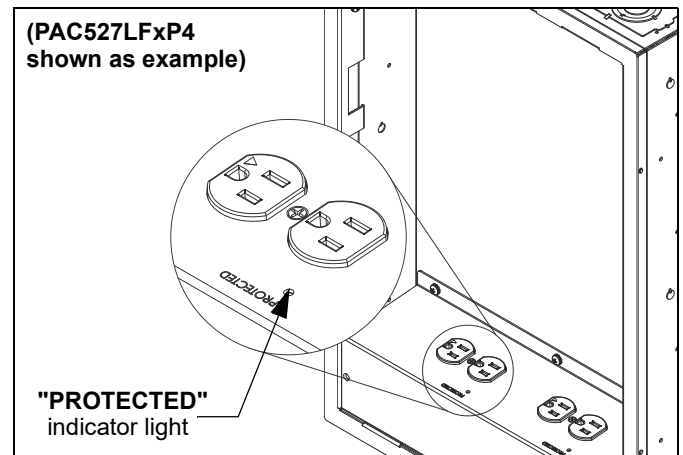

**Figure 2**
- Wire the outlet box(es) as required. Refer to Table 1 and Table 2 for input and output specifications. (See Figure 2)
- Replace the power kit in the PAC527L, fitting the two slots in the power kit lower tab around two fasteners in the PAC527L. (See Figure 1) and (See Figure 2)
- Tighten three Phillips screws to secure power kit in the PAC527L. (See Figure 2)